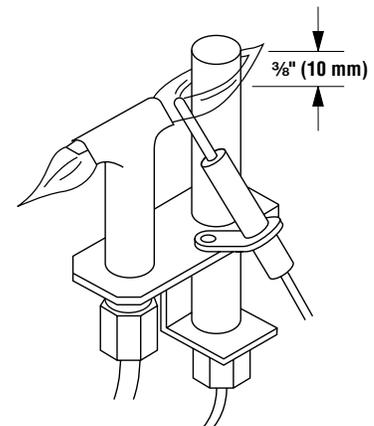

Figure 30
The top 3/8" (9 mm) at the pilot generator (thermopile) should be engulfed in the pilot flame (**Figure 30**).
If the pilot flame pattern is not as shown in **Figure 30**, adjust it as follows:
2. Adjust the pilot screw to provide properly sized pilot flame (**Figure 30**). Turn counter clockwise to enlarge pilot flame and clockwise to reduce the pilot flame. DO NOT attempt to adjust pilot flame more than one half turn.